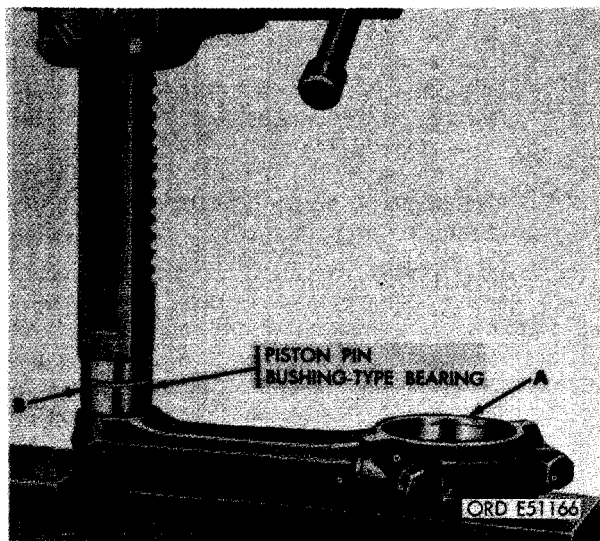

FIGURE 347. REMOVING OR INSTALLING PISTON PIN BUSHING-TYPE BEARING.
**e. Piston Pin Bushing-type Bearings.** Replace worn or damaged piston pin bushing-type bearing (SS-1). Figure 347. (A) Position connecting rod on suitable supports as shown. Bore new bushing to 1.6265 to 1.6267-inches.
- (1) Replace connecting rod assemblies (SS) which are not within limits specified in repair and rebuild standards (par. 292). Rods with damaged piston pin bushings can be repaired as outlined in e above.
- (2) Replace rod cap bolts (SS-6) that have damaged threads.
- (3) Replace bolts that are cracked, scratched, or that show any evidence of stretching.